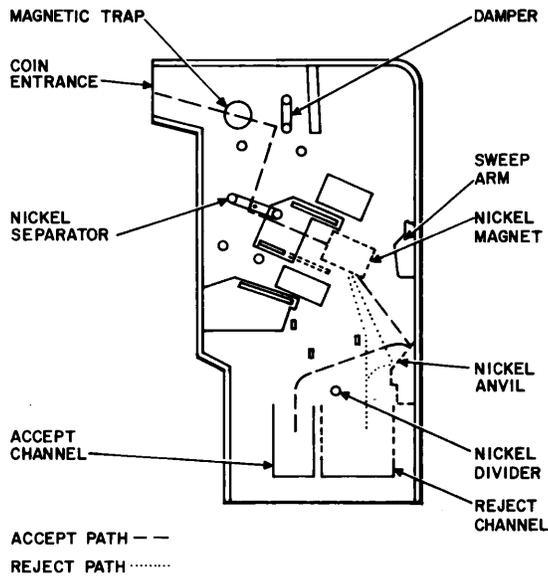

Fig. 2—Nickel Path in a Typical Coin Chute
**2.01 Nickel Operation—Valid Coin Accepted (Fig. 2):**
**2.02 Nickel Operation—Coin Rejected (Fig. 2):**